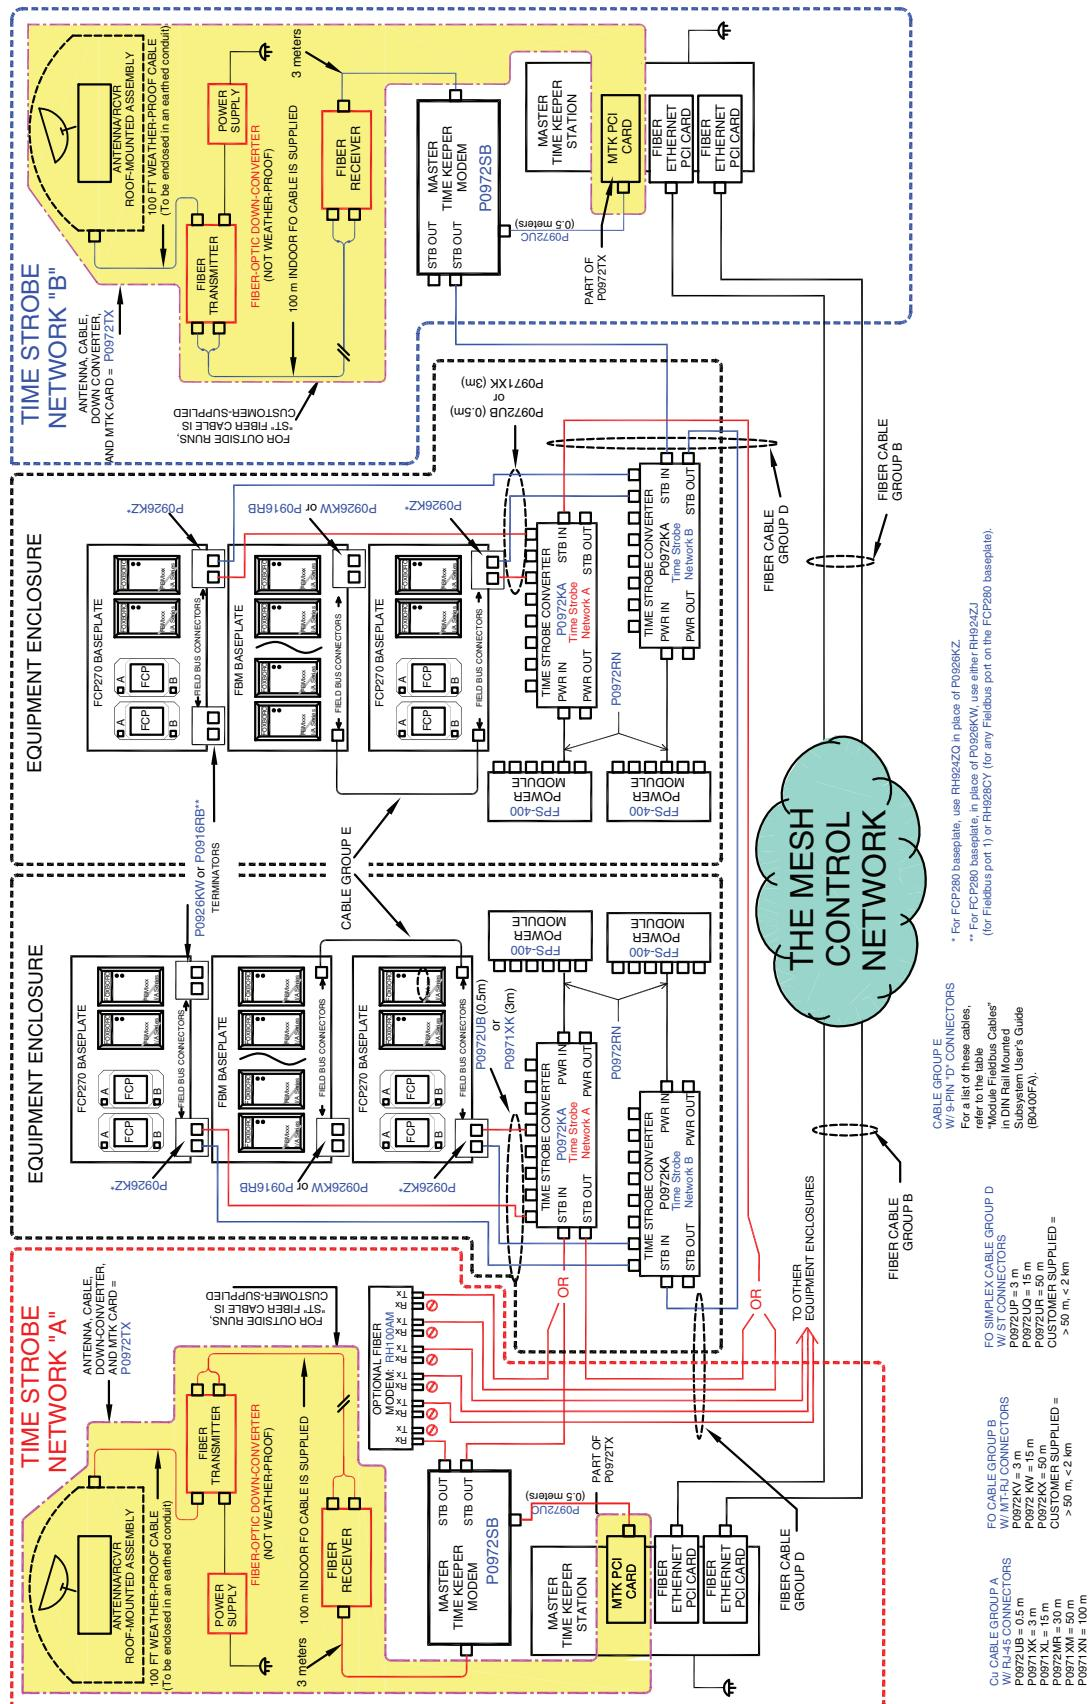

Figure A-1. FCP270 with Fiber Antenna Connection, Redundant Cabling
- ◆ Extended Time Strobe Network - FCP270 with Fiber Antenna Connection, Redundant Cabling (Figure A-1)